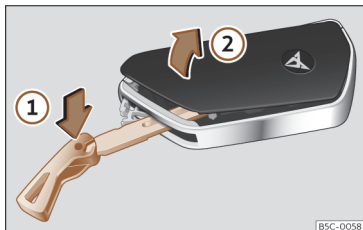

Fig. 74 Vehicle key: opening the battery compartment cover.
- Insert the key blade into the slot >>> Fig. 74, press it in the direction of arrow ① and detach the cover by levering it ②.